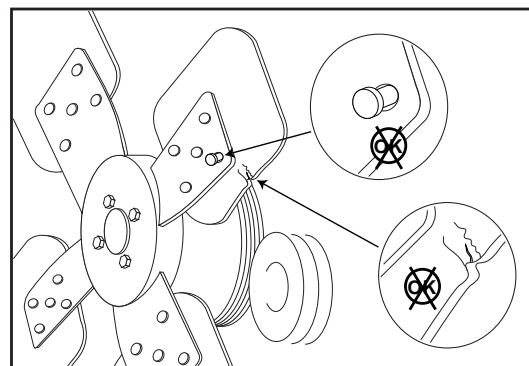

Figure 10
- Visual inspection of the cooling fan is required daily. Check for cracks, loose rivets, and bent or loose blades (figure 10). Check the fan to make sure it is securely mounted. Tighten the capscrews if necessary. Replace any fan that is damaged.